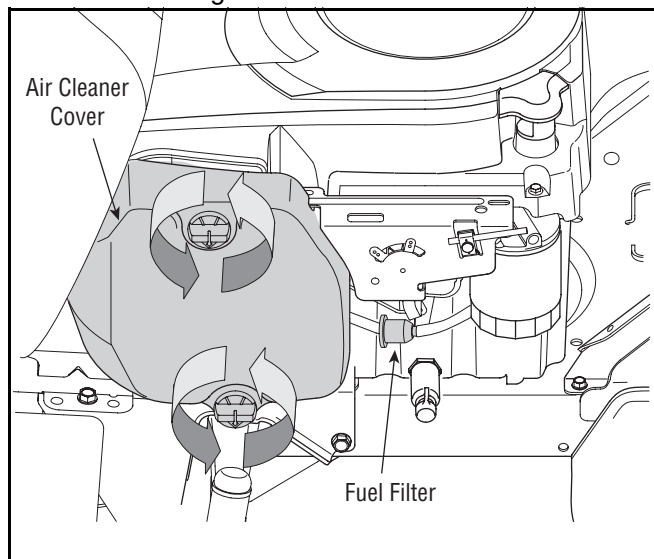

Figure 17
1. Loosen the air cleaner cover knobs and remove the cover. See Figure 17.
The engine is equipped with an inline fuel filter located on the left side of the engine. Refer to Figure 17.